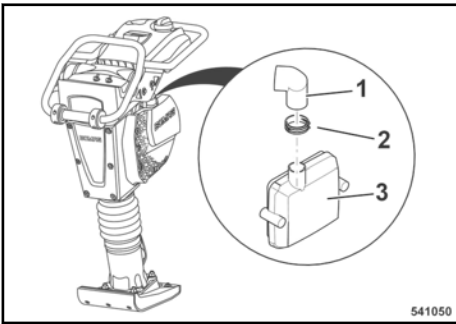

Fig. 58
Connect the air guide hose (1) to Fig. 58 to the air filter housing (3) on the engine and tighten the hose clamp (2).